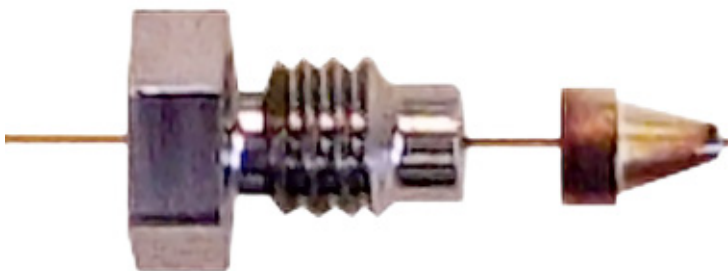

Figure 8 Tube end with internal nut and swaged SilTite ferrule
- 6 Check the end of the tube with a magnifier. The end of the tube need not be perfectly square, but should not have cracks which extend under the ferrule. Figure 8 shows a completed tube end.